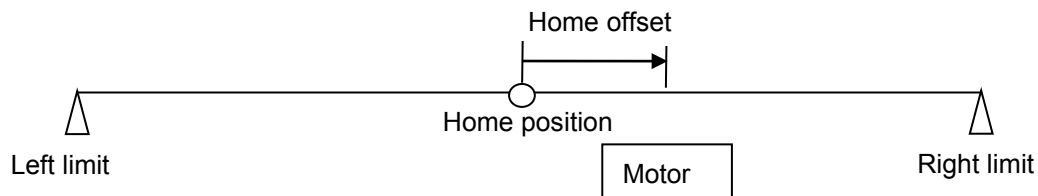

Figure5.7.3
(3) CiA 402 homing mode
This method is only applicable to the homing mode (4) described above. When “Home Offset” is set to a nonzero value, the drive sets the home position found in the original condition to the value of “Home Offset”, as shown in figure 5.7.3. If “Home Offset” is positive, the coordinated origin is at the left side of home position found in the original condition; while if it is negative, the coordinated origin is at the right side of home position found in the original condition.